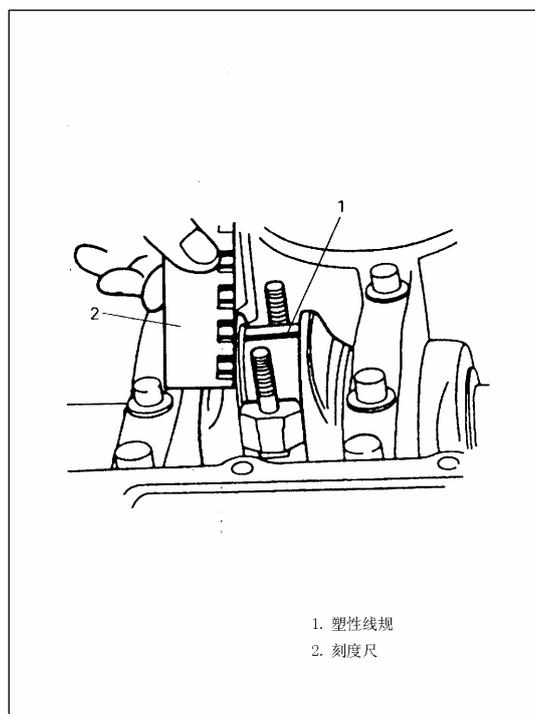

Fig 4-182
E) Disassemble connecting rod cap, measure the maximum width of plastic gauge (clearance) with plastic gauge ruler.fig.4-182